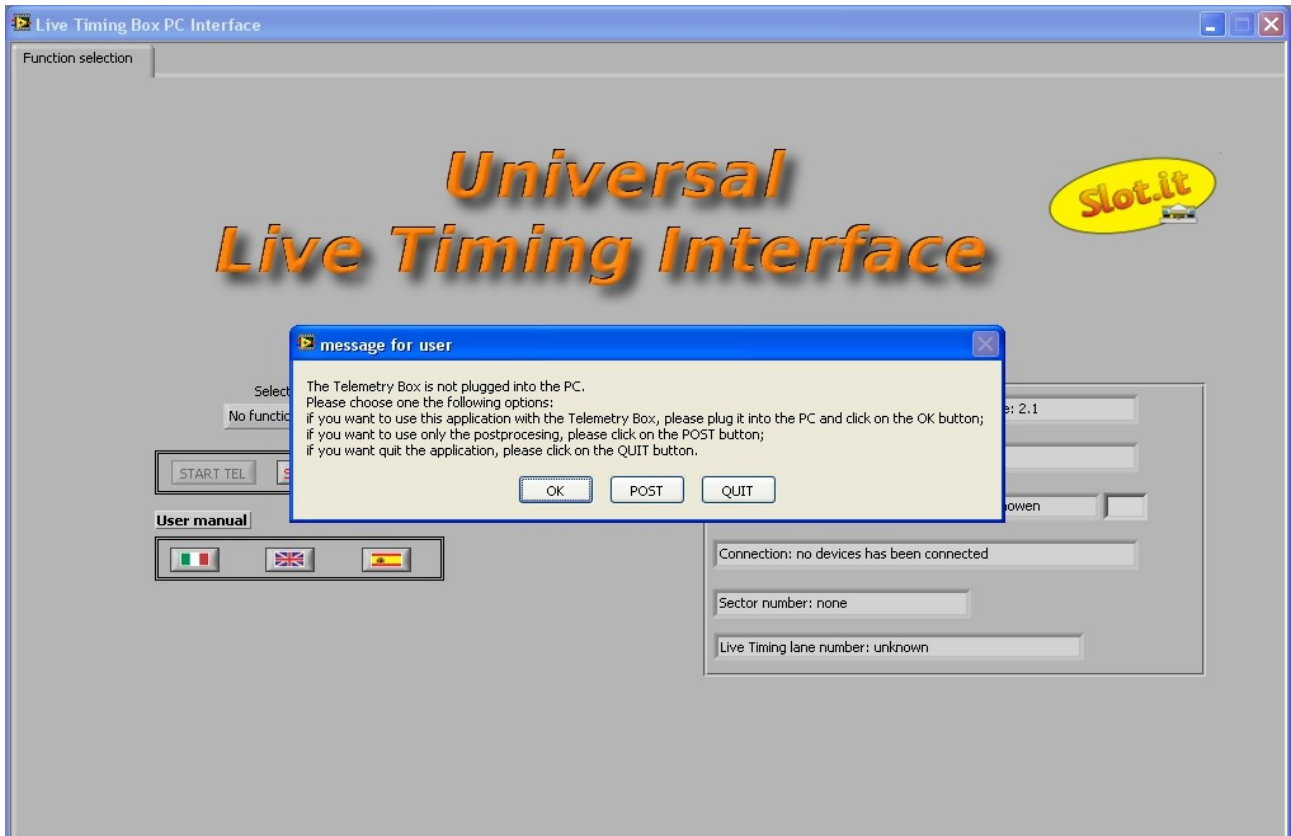

Figure 38: starting windows *Live Timing Box PC Interface* with no *Universal Live Timing Box* connection.
If no *Universal Live Timing Box* (figure 38) is connected, connect the *Universal Live Timing Box* to the PC and push "OK".
- "no box": no *Universal Live Timing Box* is connected to the PC (the situation is the one of figure 38);